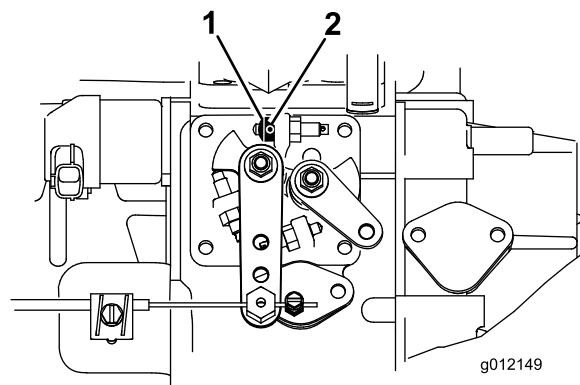

Figure 6
- Loosen the set screw on the throttle stop (Figure 6).
- Slide the throttle stop onto the high-idle stop screw (Figure 6). The chamfered end of the throttle stop is to be positioned outward.